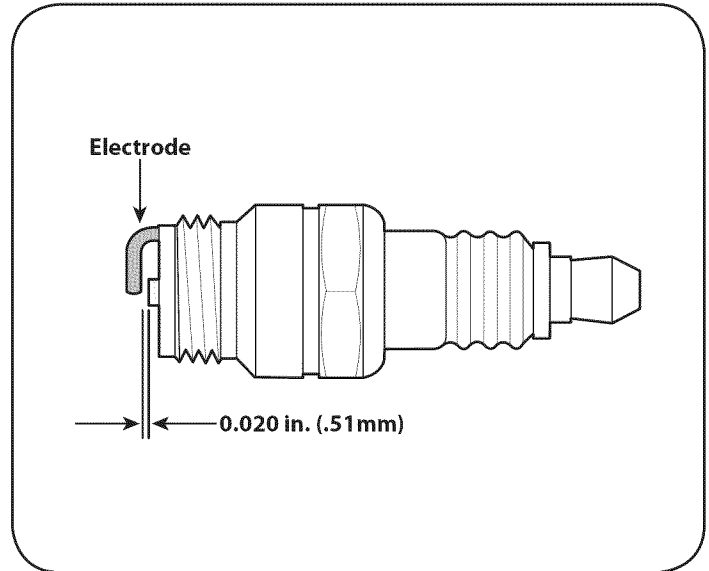

Figure 15
3. Check the gap with a wire gauge. See Figure 15. Spark plug gap should be 0.020 in (0.51 mm). If necessary, reset the gap.